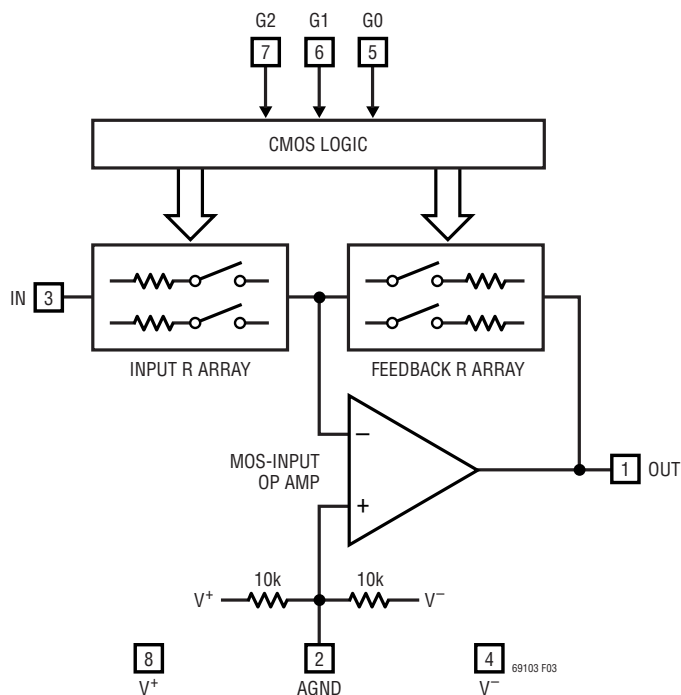

Figure 3. Block Diagram
**AGND (Pin 2):** Analog Ground. The AGND pin is at the midpoint of an internal resistive voltage divider, developing a potential halfway between the  $V^+$  and  $V^-$  pins, with an equivalent series resistance to the pin of nominally 5k $\Omega$  (Figure 3). AGND is also the noninverting input of the internal op amp, which makes it the ground reference
**IN (Pin 3):** Analog Input. The input signal to the amplifier in the LTC6910-3 is the voltage difference between the IN and AGND pins. The IN pin connects internally to a digitally controlled resistance whose other end is a current summing point at the same potential as the AGND pin (Figure 3). At unity gain (digital input 001), the value of this input resistance is approximately 10kΩ and the IN voltage range is rail-to-rail ( $V^+$  to  $V^-$ ). At gain settings above unity (digital input 010 or higher), the input resistance falls, to nominally 1.4kΩ at gain setting of 7V/V (digital input 111). Also, the linear input range falls in inverse proportion to gain. (The higher gains are designed to boost lower level signals with good noise performance.) In the “zero” gain state (digital input 000), analog switches disconnect the IN pin internally and this pin presents a very high input resistance. The input may vary from rail to rail in the “zero” gain setting but the output is insensitive to it and remains at the AGND potential. Table 1 summarizes the LTC6910-3’s behavior for all gain codes. Circuitry driving the IN pin must consider the LTC6910-3’s input resistance and the variation of this resistance when used at multiple gain settings. Signal sources with significant output resistance may introduce a gain error as the source’s output resistance and the LTC6910-3’s input resistance form a voltage divider. This is especially true at the higher gain settings where the input resistance is lowest.
The LTC6910-3 is a small outline, wideband inverting DC amplifier whose voltage gain is digitally programmable. It delivers a choice of eight voltage gains, controlled by the 3-bit digital inputs to the G pins, which accept CMOS logic levels. The gain code is always monotonic; an increase in the 3-bit binary number (G2 G1 G0) causes an increase in the gain. LTC6910-3's nominal gain magnitudes are 0, 1, 2, 3, 4, 5, 6, and 7Volts/Volt. At nonzero gains, the signal bandwidth varies roughly inversely with gain, so that the product of gain and bandwidth (to -3dB rolloff) is typically 11MHz. Gain control within the amplifier occurs by switching resistors from a matched array in or out of a closed-loop op amp circuit using MOS analog switches (Figure 3).